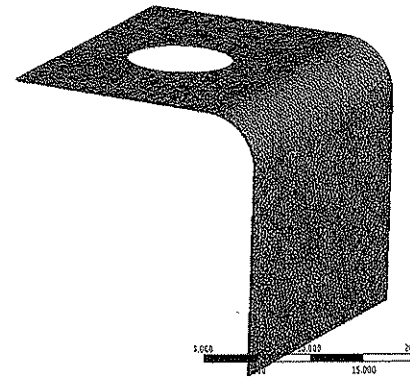

Figure 8-56 Mesh generated with all triangular elements
- Choose the **Update** button from the **Mesh** contextual toolbar; the mesh is updated, as shown in Figure 8-56.